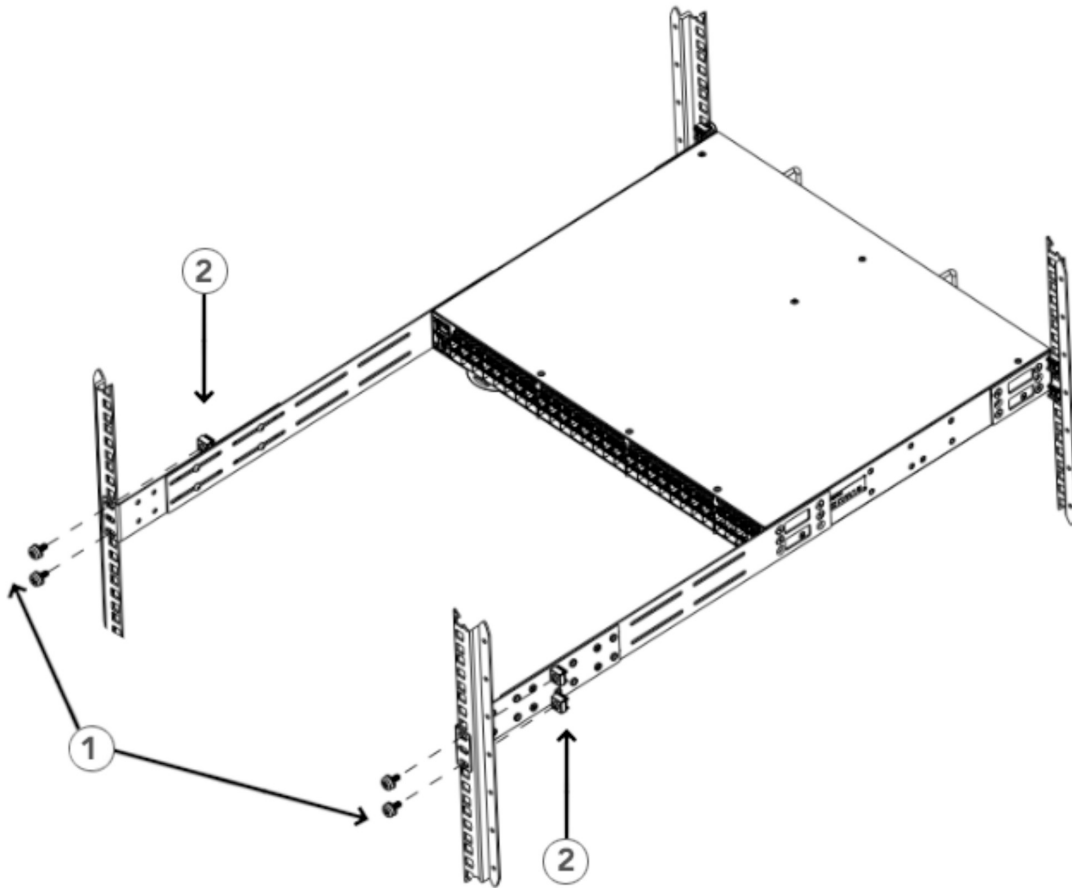

Figure 15. Attaching the rear brackets to the front rack posts
1. Attach the right rear bracket to the right front rack post using two 10-32 x 5/8-in. screws and two retainer nuts, as shown in Figure 15 on page 25. Use the upper and lower holes in the bracket.